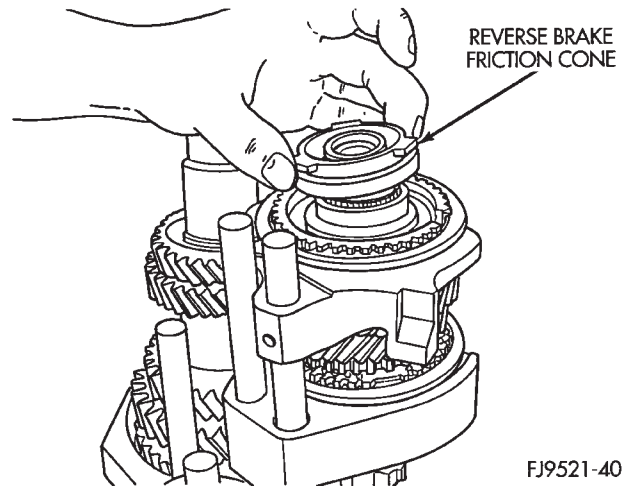

Fig. 72 Reverse Brake Friction Cone Installation
(7) Install reverse brake friction cone (Fig. 72).